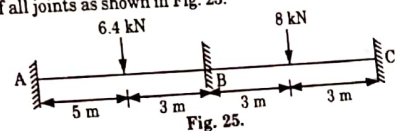

Fig. 25.
- i. Fully restrained structure to be obtained by imposing the restraints of all joints as shown in Fig. 25.